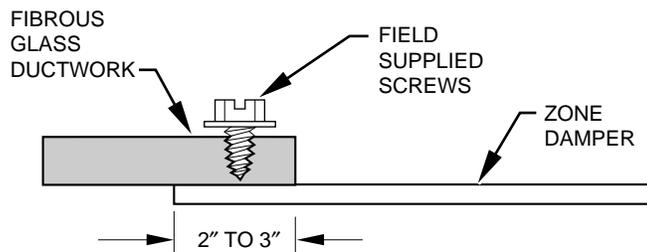

Fig. 14—Rectangular Fibrous Glass Ductwork A92480
1. Insert 1 end of zone damper into 1 end of fibrous glass ductwork approximately 2 to 3 in. (See Fig. 14..)